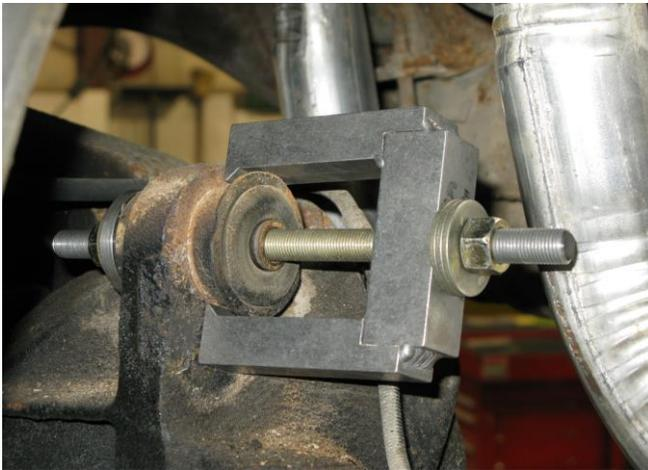

Figure 1 - Bushing removal
3. With the upper link removed, remove the rubber bushing from the rear axle housing. Detroit Speed offers the tool necessary for the removal and installation. It is available as p/n: 042501. Figure 1 below shows the tool assembled on the rear axle for bushing removal. Figure 2 shows the bushing being installed. **NOTE:** Be sure to lubricate the threads and the washers of the tool with anti-seize to prevent galling during installation and removal.